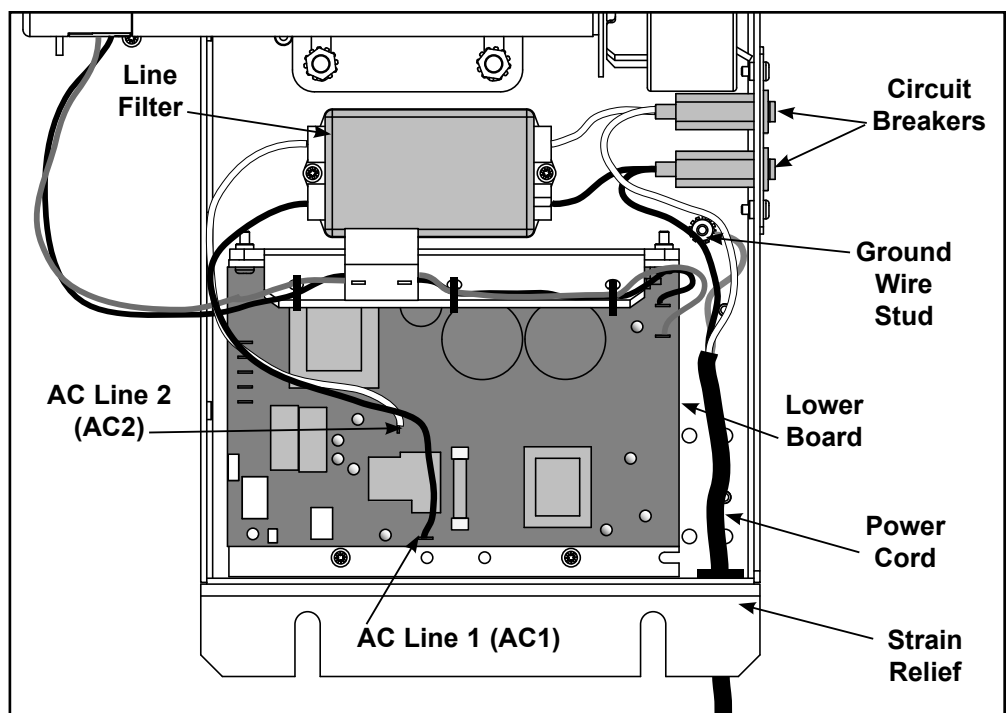

Figure 21a (425T)
- A. Using a 3/8" nut driver or socket wrench, remove the nut securing the ground wire to the motor base plate. See Figure 21a.
- B. Unplug the black and white fast-on connectors from the circuit breakers. See Figure 21a.
C. Connect the black fast-on connectors from the power cord to the circuit breaker with the black wire. See Figure 21a.
D. Connect the white fast-on connectors from the power cord to the circuit breaker with the white wire. See Figure 21a.
- B. Connect the two white fast-on connectors the front circuit breaker. See Figure 21a.
- C. Connect the two black fast-on connectors the front circuit breaker. See Figure 21a.
- A. Disconnect the two fast-ons connectors that go from the line filter to the lower board (cables labeled AC1 and AC2 on the lower board). See Figure 21a or 21b.
- B. Disconnect the two fast-ons connectors that go from the line filter to the circuit breakers. See Figure 21a or 21b.
- A. Connect the white cable (AC2) from the lower board to the front left terminal on the line filter. See Figure 21a or 21b.
- B. Connect the black cable (AC1) from the lower board to the back left terminal on the line filter. See Figure 21a or 21b.
- C. Connect the white cable from the circuit breaker to the front right terminal on the line filter. See Figure 21a or 21b.
- D. Connect the black cable from the circuit breaker to the back right terminal on the line filter. See Figure 21a or 21b.
- B. Using a 1/2" open end wrench, install the two motor plate bolts and washers. See Figure 21a.